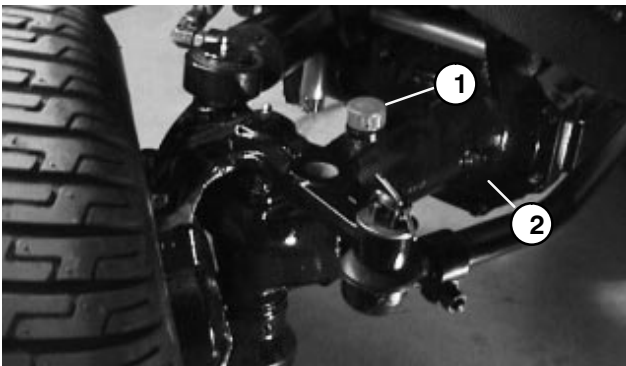

Figure 8
CHECK REAR AXLE LUBRICANT (Model 30455 Only) (Fig. 8–9)
2. Clean area around the (3) check plugs, (1) on each end and (1) in the center (Fig. 8).